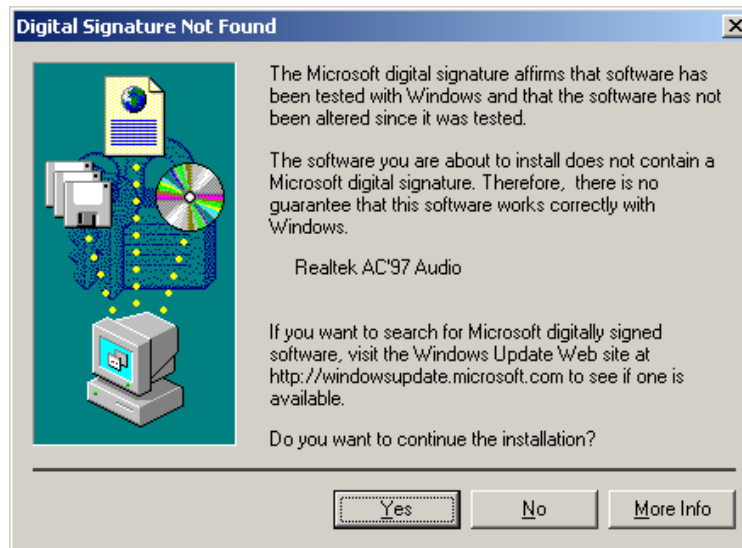

Figure 7-46: Audio Driver Digital Signature
Step 12: At this stage the **Digital Signature Not Found** screen shown in **Figure 7-46** appears.